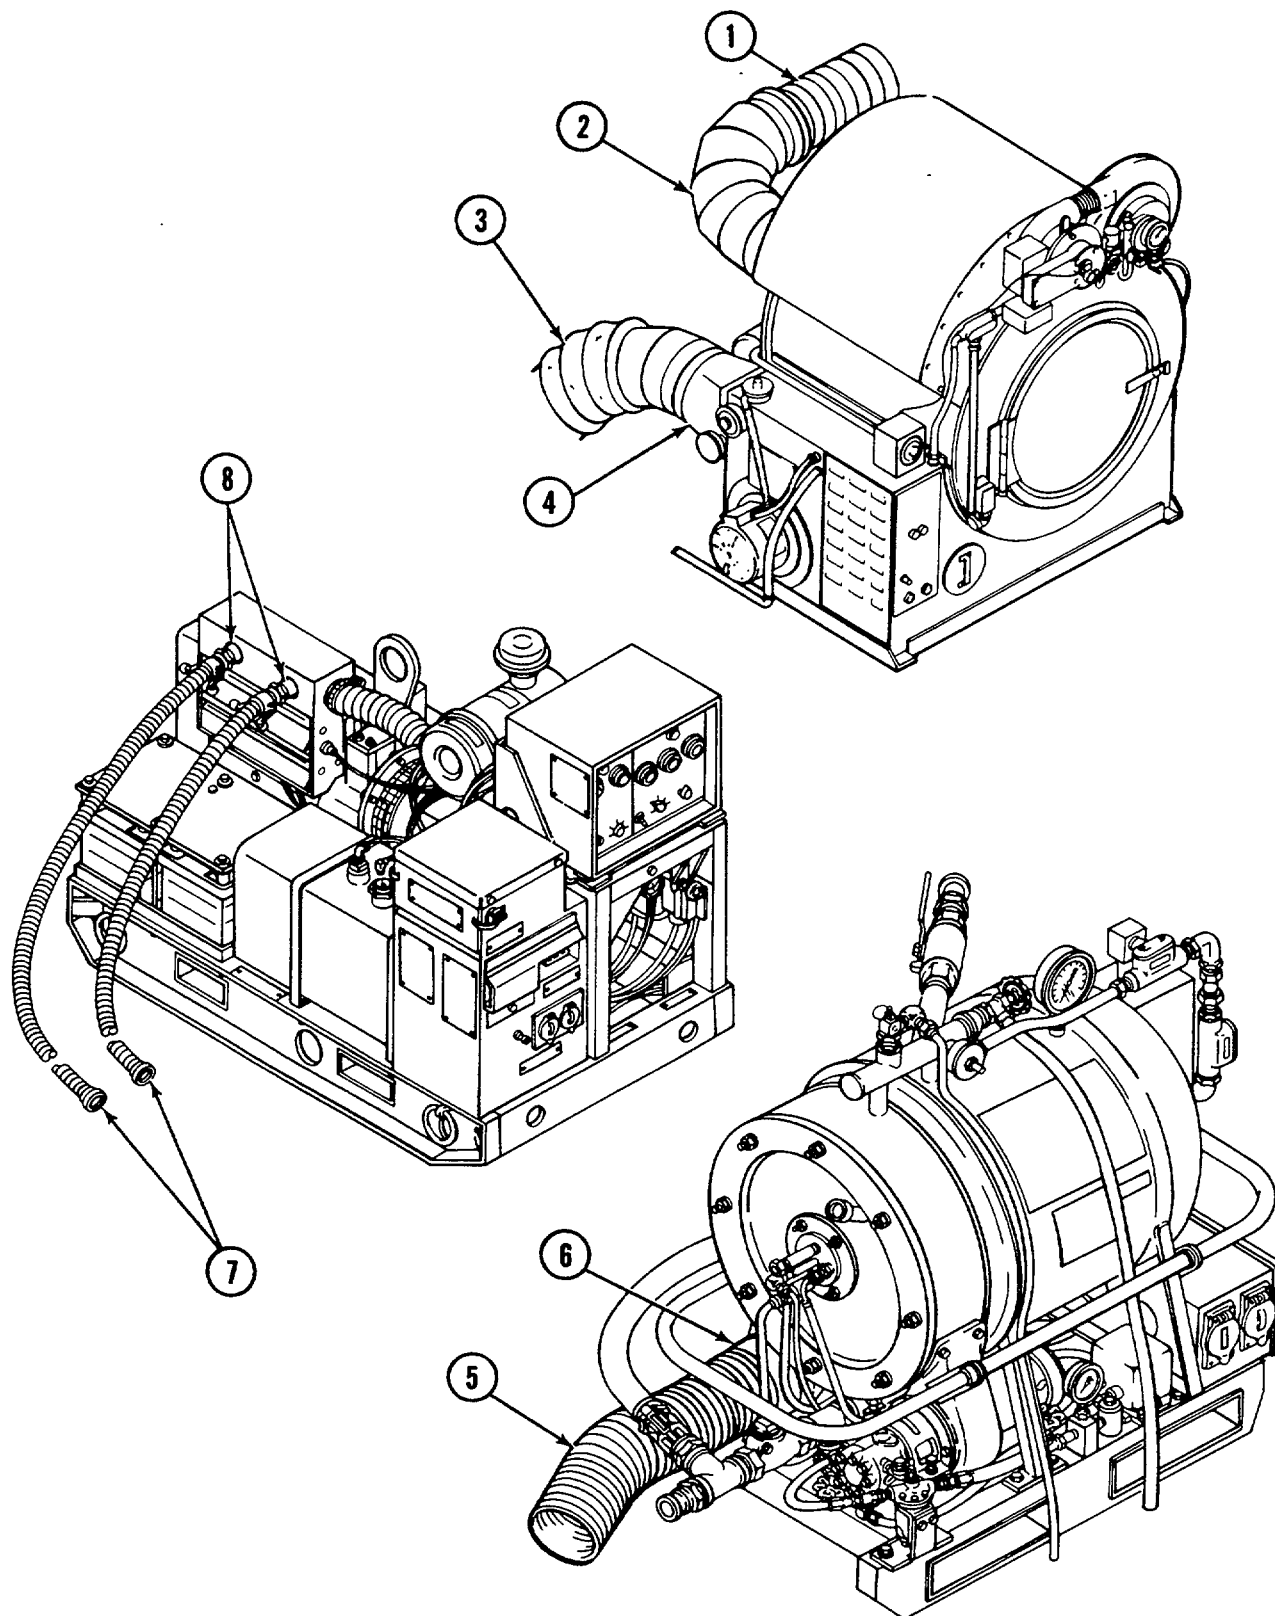

FIGURE 2-17. Exhaust hose connections.
Ensure that exhaust ducts (1, 3, 5, and 7, FIG. 2-17) do not touch or cross other exhaust ducts, power cables, fuel lines, or water hoses. Melting/damage can occur causing leaking fuel and water or electrical hazards. Death by electrocution, fire, or explosion could result.
- (2) Connect 5-inch (127 mm) combustion exhaust duct (1, FIG. 2-17) to dryer exhaust port (2). Extend duct away from trailer assembly. Do not touch or cross other exhaust ducts, power cables, water hoses, or fuel lines.